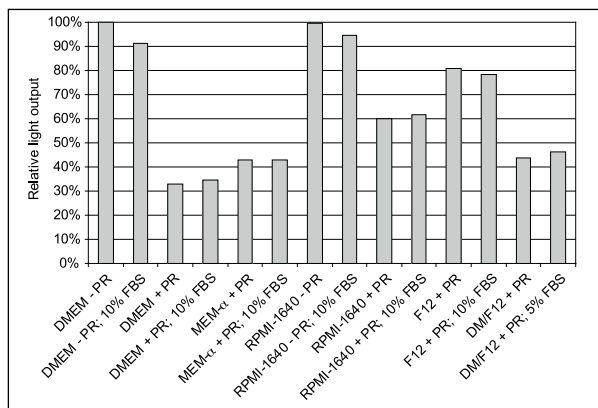
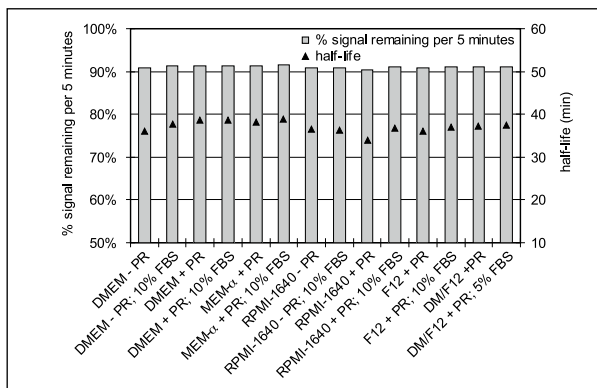

Figure 4. Relative light output in different media
Figure 5. Signal stability in different media expressed as a percentage of signal remaining per 5 minutes and half-life (minutes)
To assess the influence of different culture media on luminescence light output, the following experiment was performed using commercially available basal media in the presence and absence of Fetal Bovine Serum (FBS) and Phenol Red (PR). 100 μL britelite plus was added to 100 μL samples of the different media in a white 96-well OptiPlate, where each sample contained luciferase at a concentration of 5×10^{-10} gram per mL. After shaking the plate, the light output was measured using a TopCount NXT. Figure 4 illustrates the results of the relative luminescence after 5 minutes count delay. Figure 5 shows the results of the stability of the signal as a function of the culture media used.
The results from Figure 4 show that the light output is to some extent affected by FBS but that Phenol Red has a much larger impact on the light output reflecting the concentrations of Phenol Red in the basal media. Consequently the use of Phenol Red in culture media should be avoided to attain the highest signal. The stability of the luminescent signal is only somewhat dependent on the media as shown in Figure 5.
- Phenol Red, as well as other colored compounds, will chemically not interfere with the luciferin/luciferase reaction, but will quench some of the emitted light, resulting in lower assay signals (see Figure 4). For optimal light output, the culture medium can be substituted with **Dulbecco's PBS containing calcium and magnesium ions** prior to the addition of britelite plus.